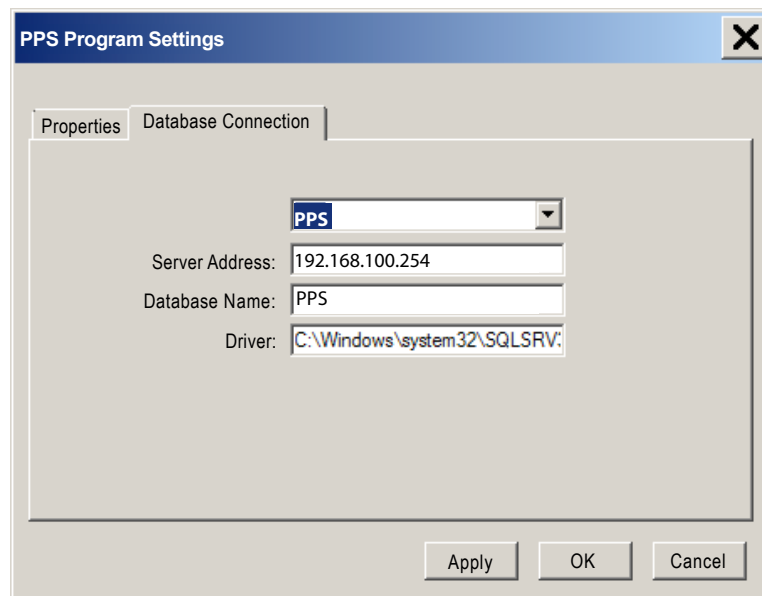

Figure 5. PPS Program Settings: Database Connection tab.
13. Select the **Database Connection** tab (see Figure 5).